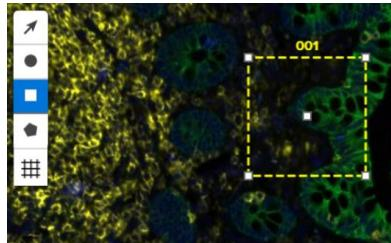

Figure 25: Scan Workspace square ROI button
1. Select a shape button (circle or rectangle) from the Scan Workspace (see Figure 25).